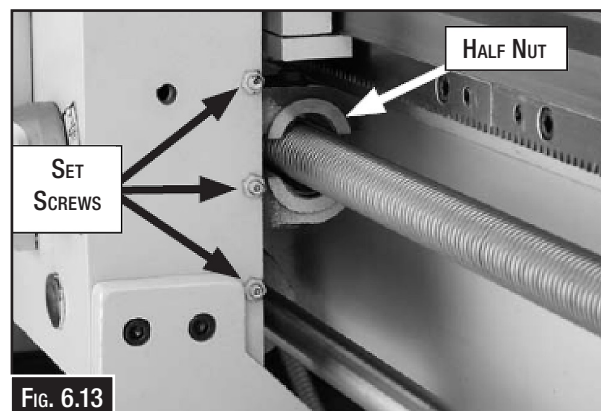

FIG. 6.13
3. Loosen the hex nuts on the set screws shown in Fig. 6.13